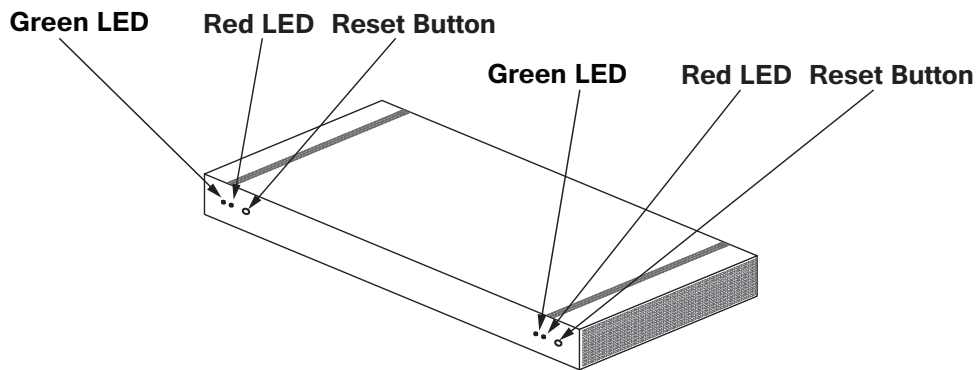

Figure 4 The front of the NC-2100K Coordinator Bundle (1U model)
The Coordinator Bundle has two sets of indicators and controls on the front (see Figures 4 and 5).
4. Press the reset button (see Figures 4 and 5) for the coordinator with the blinking LED.